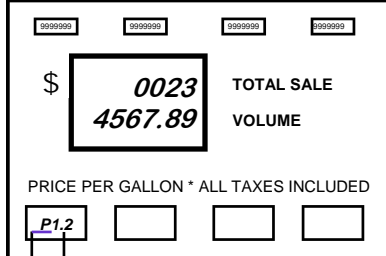

Figure 8
1. Press the 2 button and then the **MODE** button on the keypad. The main display appears similar to Figure 8.